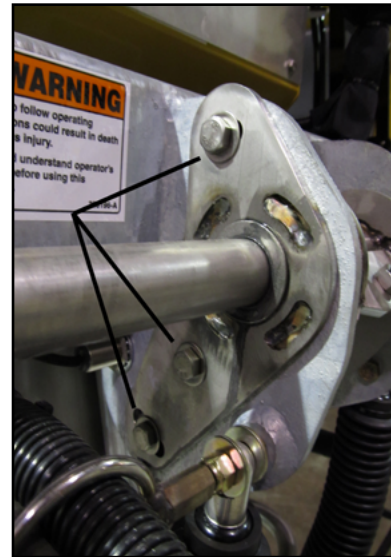

Figure 13- Detail of Clamp
- Loosen hardware on spinner clamp two turns as indicated in Figure 13.